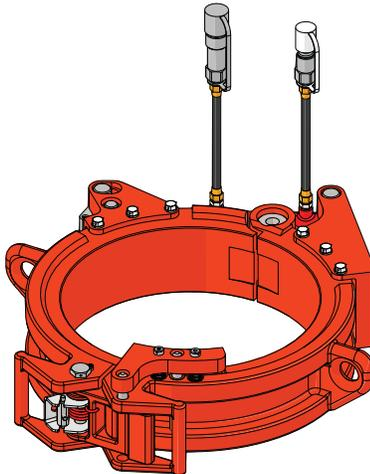

Figure 2: Single Joint Automated Elevator for 14" Casing
- Single Joint Automated Elevator for 14" Casing (Canrig P/N: 1550176). See Figure 2.